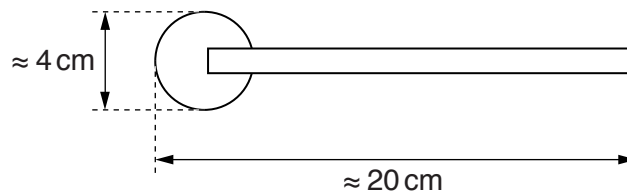

Fig. 1.1
- 1 It should be possible to attach the pulley to one of the stands using one of the bosses. A pulley with the approximate dimensions shown in Fig. 1.1 is suitable.